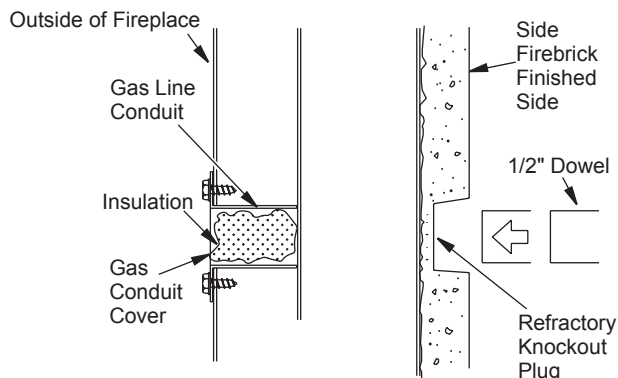

Figure 19 - Gas Line Knockout
1. Remove knockout indentation on refractory or firebrick wall located above refractory hearth floor. Knockout indentation must be firmly tapped with any solid object, such as a 1/2" dowel, until it is released. Remove fragmented portions of refractory (see Figure 19).